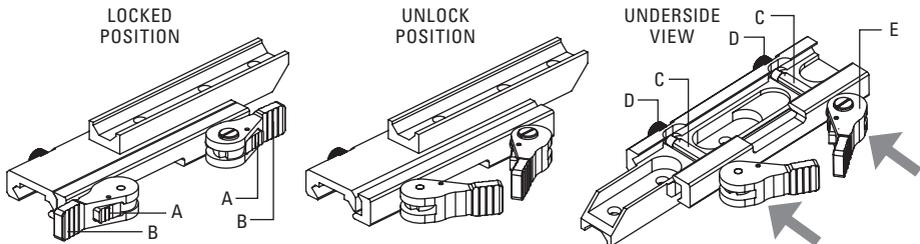

FIGURE 3-3. MOUNT
1. Unlock the clamping device of the scope mount by pushing down on the lever holders (A, see Figure 3-3) and unlocking the levers (B).
2. Install the scope on the Picatinny/ Weaver rail so that the stops (C, see Figure 3-3) slides into the transverse slots on the rail.
3. Affix the scope to the rail by locking the levers (B, Figure 3-3).
2. With the clamping device unlocked (as shown in Figure 3-3), push the cam (E) towards the arrow, which will cause the nut (D) to slide out of its hole.
3. To tighten/ loosen the clamping device, push down on the cam (E) and turn the nut (D) CW/ CCW respectively, in one-two increments (see note below). Much like when the cam (E) is released, backward-moving springs will cause the nut (D) to slide back into its hole.